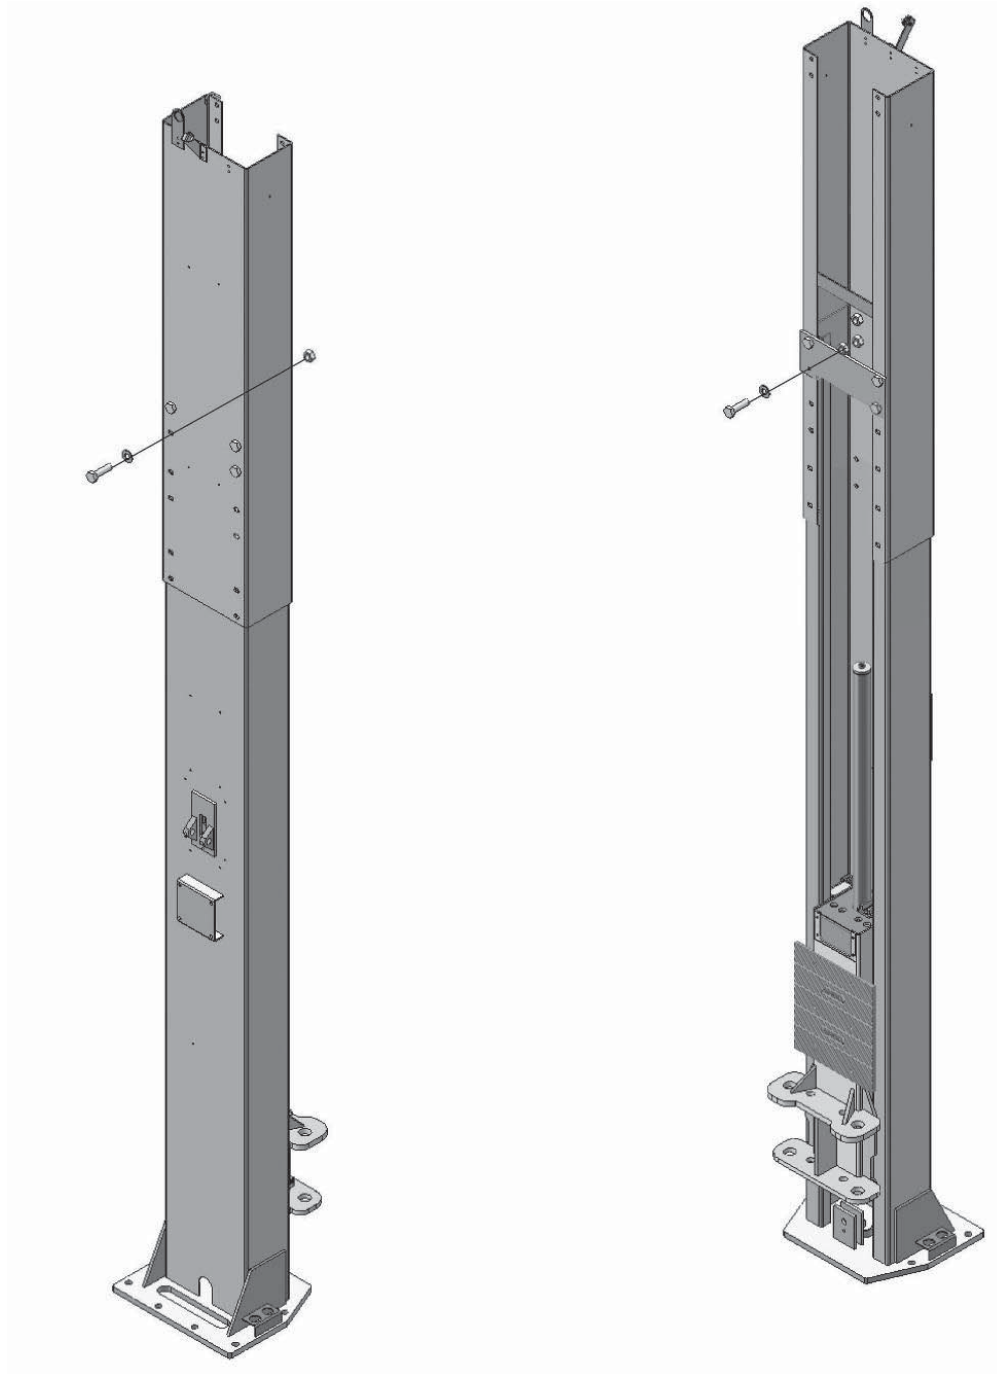

Fig. 19 Special low Setting
3. When the ceiling height is less than 4200mm (165 3/8”), connect the outer columns to the upper holes. **The cables are a special order option for the extra low setting.** (See Fig. 19).